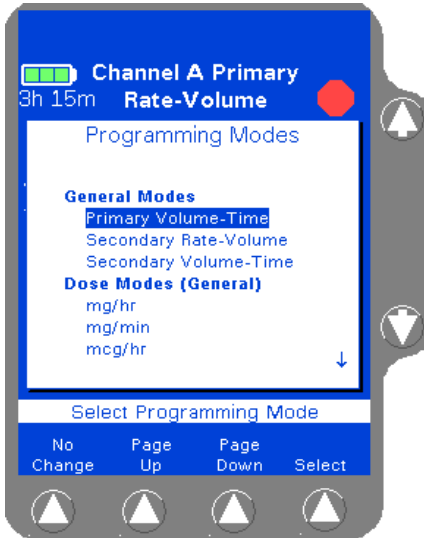

Figure 4-58 Programming Modes
- From the Programming screen, press the **Change Mode** soft key. The Programming Modes menu is displayed (Figure 4-58).